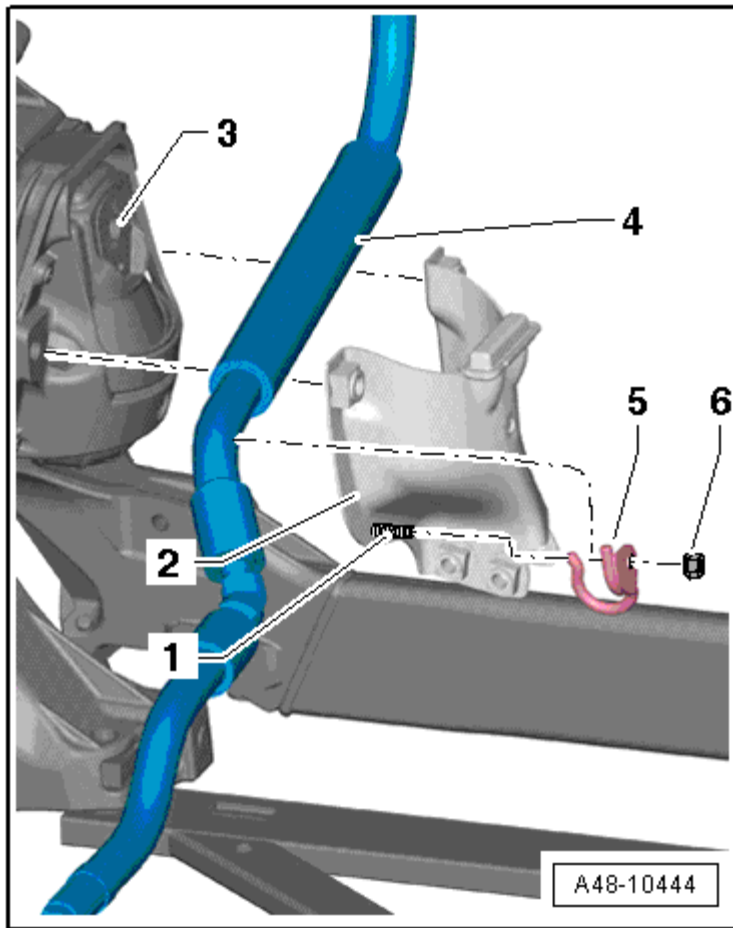

Fig. 35: Pressurized Line To Engine Mount
8. Pressurized line to the engine mount, refer to **Fig. 35**